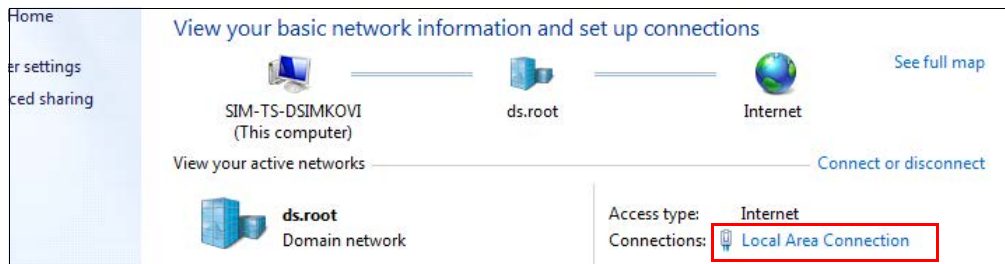

Figure 12. Select Local Area Connection
3. Select **Local Area Connection** (Figure 12):